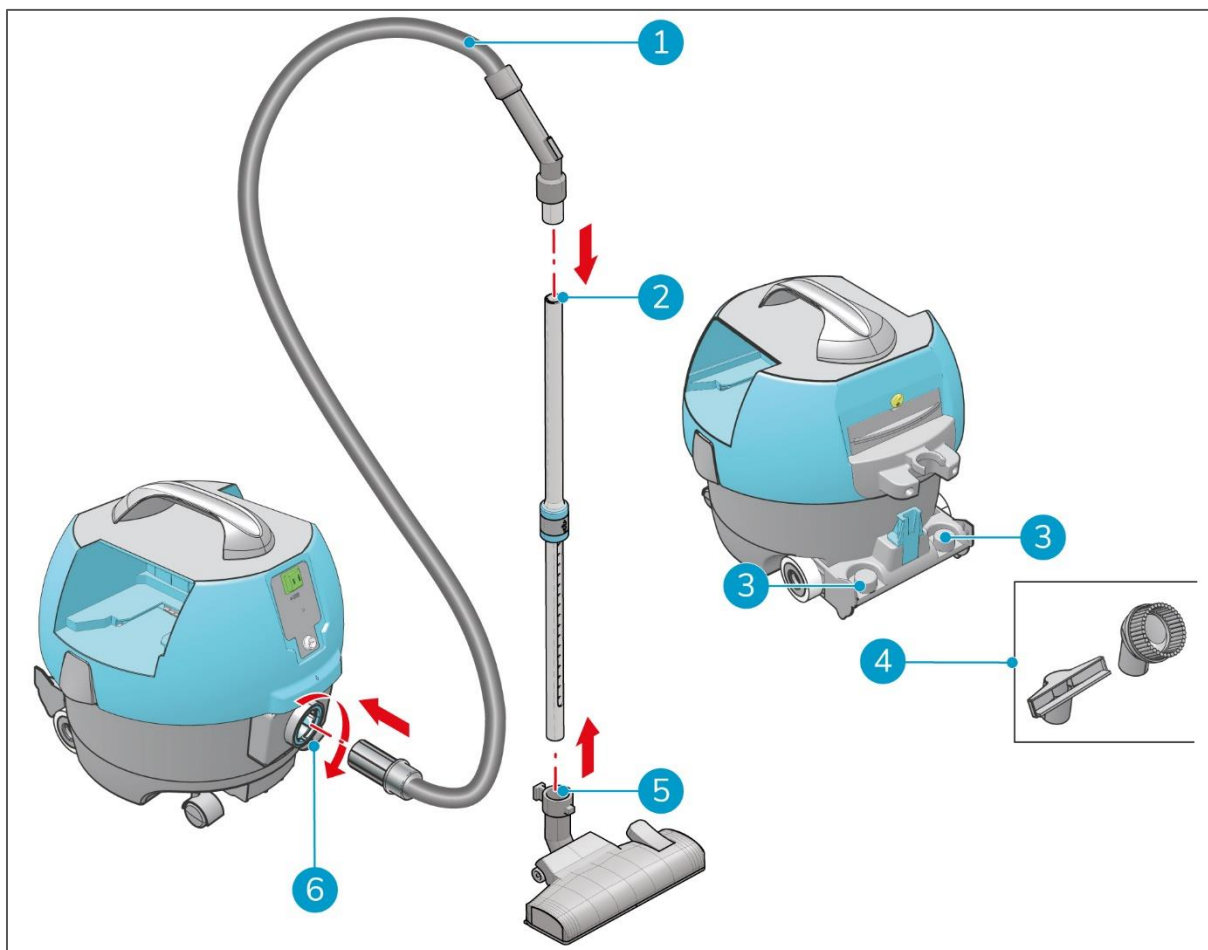

Figure 8
1. Insert the hose (Figure 8, pos 1) into the hose connector (Figure 8, pos 6).
3. Insert the hose into the wand (Figure 8, pos 2).
4. Attach the standard floor tool (Figure 8, pos 5) on the wide end of the wand.
5. Place the upholstery tool and the round brush (Figure 8, pos 4) on the brackets (Figure 8, pos 3).